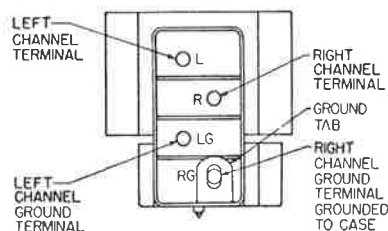

FIGURE 2
**CONNECTIONS:** The Model M55E Cartridge utilizes a 4-terminal arrangement for connections having a separate ground terminal for each channel. (See Figure 2)
If hum is experienced when cartridge is installed in a metal head, removal of the ground tab from the right ground terminal will probably correct the condition. (See Fig. 2)